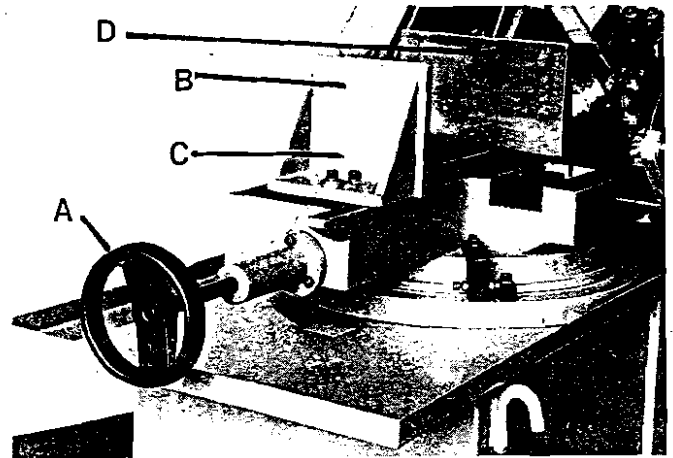

FIG.10
The workpiece is placed between the vise jaws with the required amount to be cut- off extending out past the blade. To position the moveable vise jaw (B) instant. Simply turn vise handknob (A) Fig.10, counterclockwise  $\frac{1}{2}$  turn and move the vise jaw (B) to the desired position. Then tighten vise by turning the knob (A) clockwise.
The vise can be adjusted to cut any angle from 0 degrees to 45 degrees by loosening the two bolts (C) Fig.10 on left vise jaw. Position the vise jaws to the desired angle and tighten the bolts.